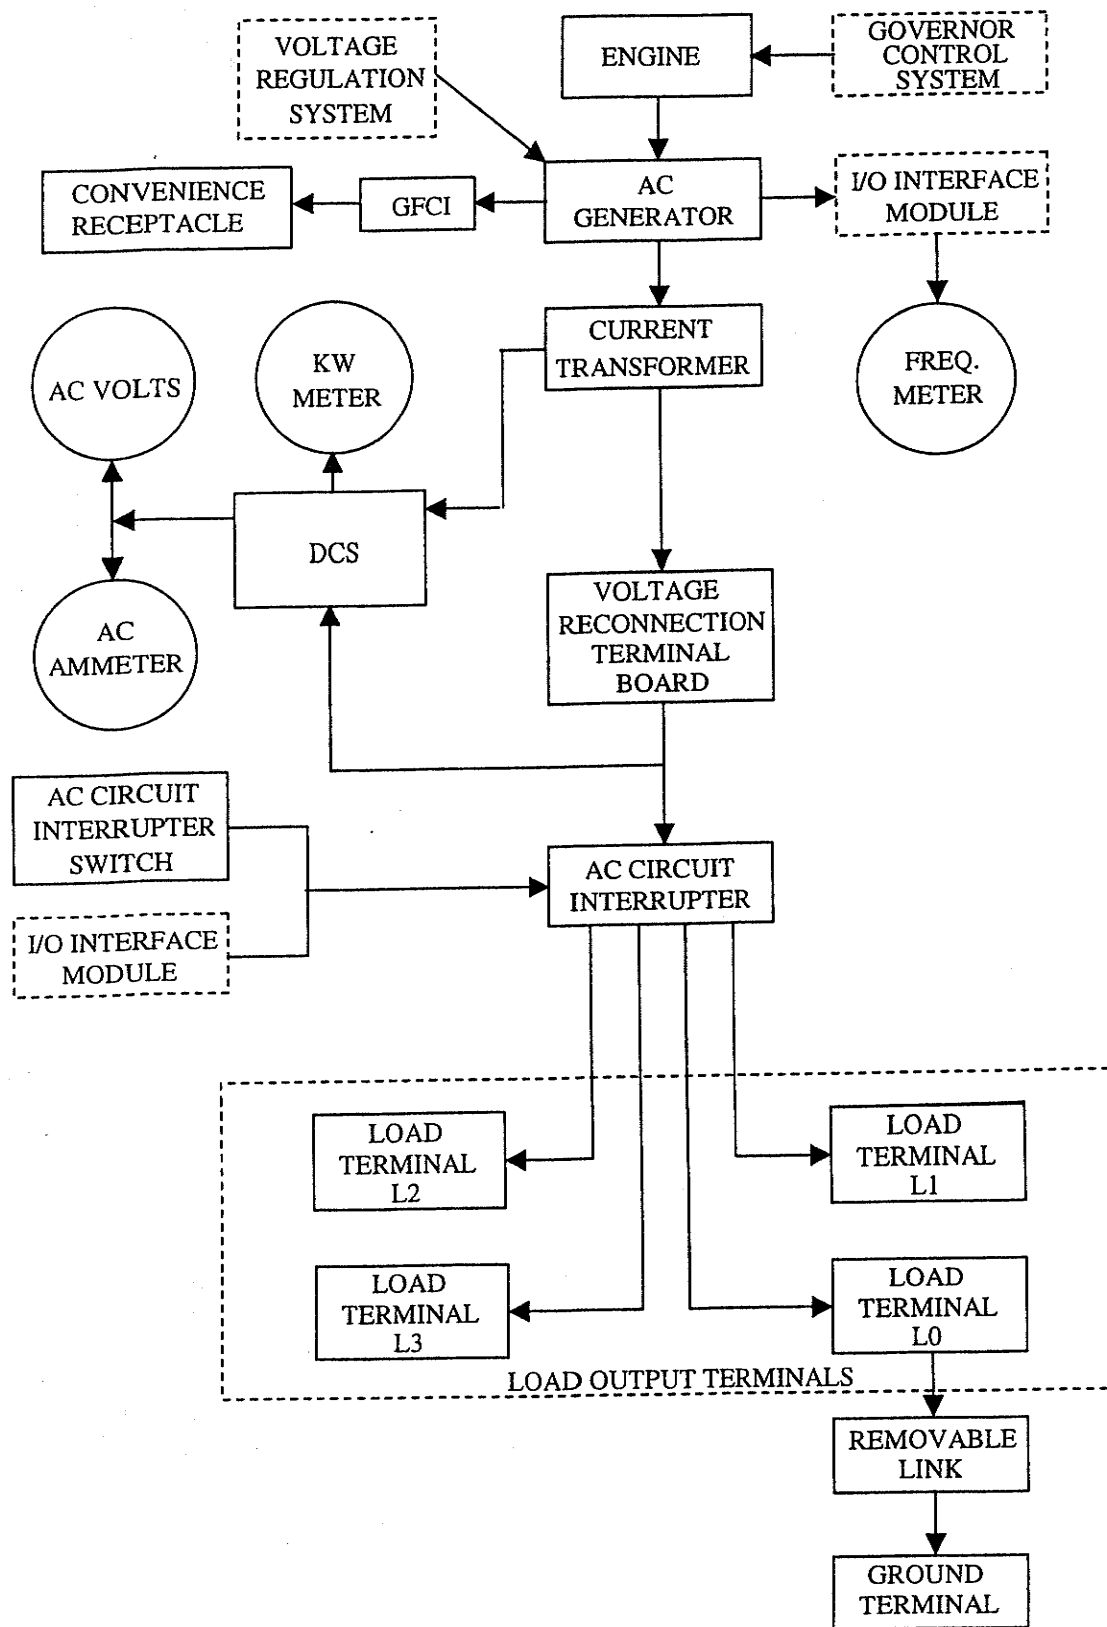

FIGURE 1-27. OUTPUT SUPPLY SYSTEM FLOW DIAGRAM
- 1.16.11.1 The Output Supply System (Figure 1-27) consists of the AC generator, ground fault circuit interrupter, CONVENIENCE RECEPTACLE, current transformer, voltage reconnection terminal board, AC circuit interrupter, load output terminals, AC CIRCUIT INTERRUPT switch, load sharing synchronizer, automatic voltage regulator, CIM display screen FREQ gage, VOLTAGE gage, and POWER gage.